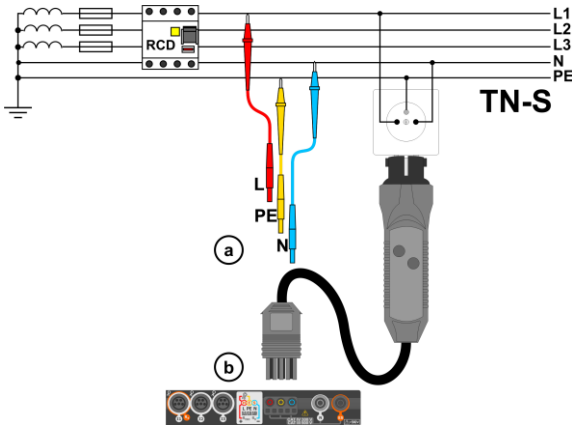
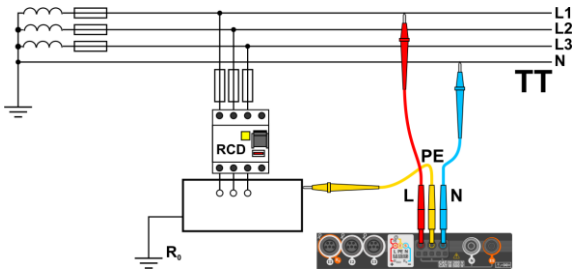

Fig. 3.3
Fig. 3.4
- 1 Connect test leads according to Fig. 3.3, Fig. 3.4 or Fig. 3.5.